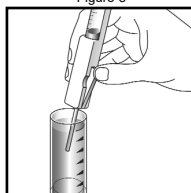

Figure 4
- Hold the Titrettor with the sample pipe in the sample. Press the control bar firmly, but briefly, to pull in a small amount of sample. The contents will turn **GREEN** (fig. 4).
- Press the control bar again to draw another small amount of sample into the ampoule (fig. 4).